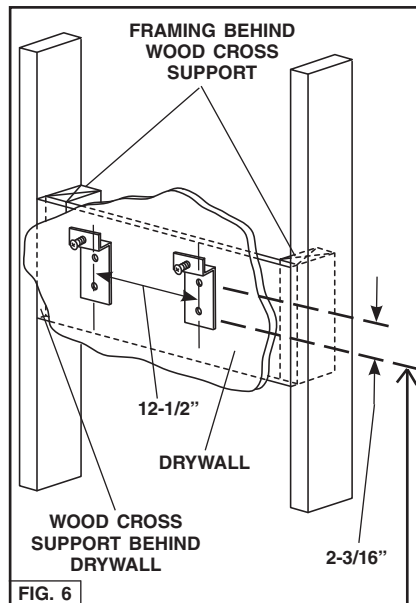

FIG. 6
1. Construct wood wall **framing** that is **flush** with interior surface of wall studs. Fig. 6.